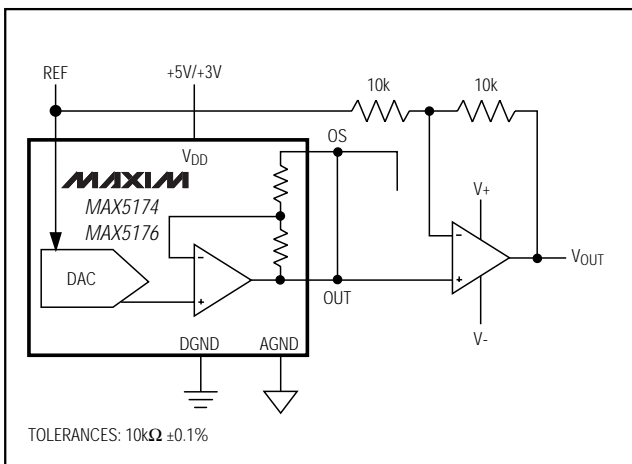

Figure 8. Bipolar Output Circuit
Figure 8 shows the MAX5174/MAX5176 configured for bipolar output operation. The output voltage is given by the following equation (OS = AGND):
where N represents the numeric value of the DAC's binary input code and  $V_{\text{REF}}$  is the voltage of the external reference. Table 3 shows digital codes and the corresponding output voltage for Figure 8's circuit.
**Table 3. Bipolar Code Table (Circuit of Figure 8)**